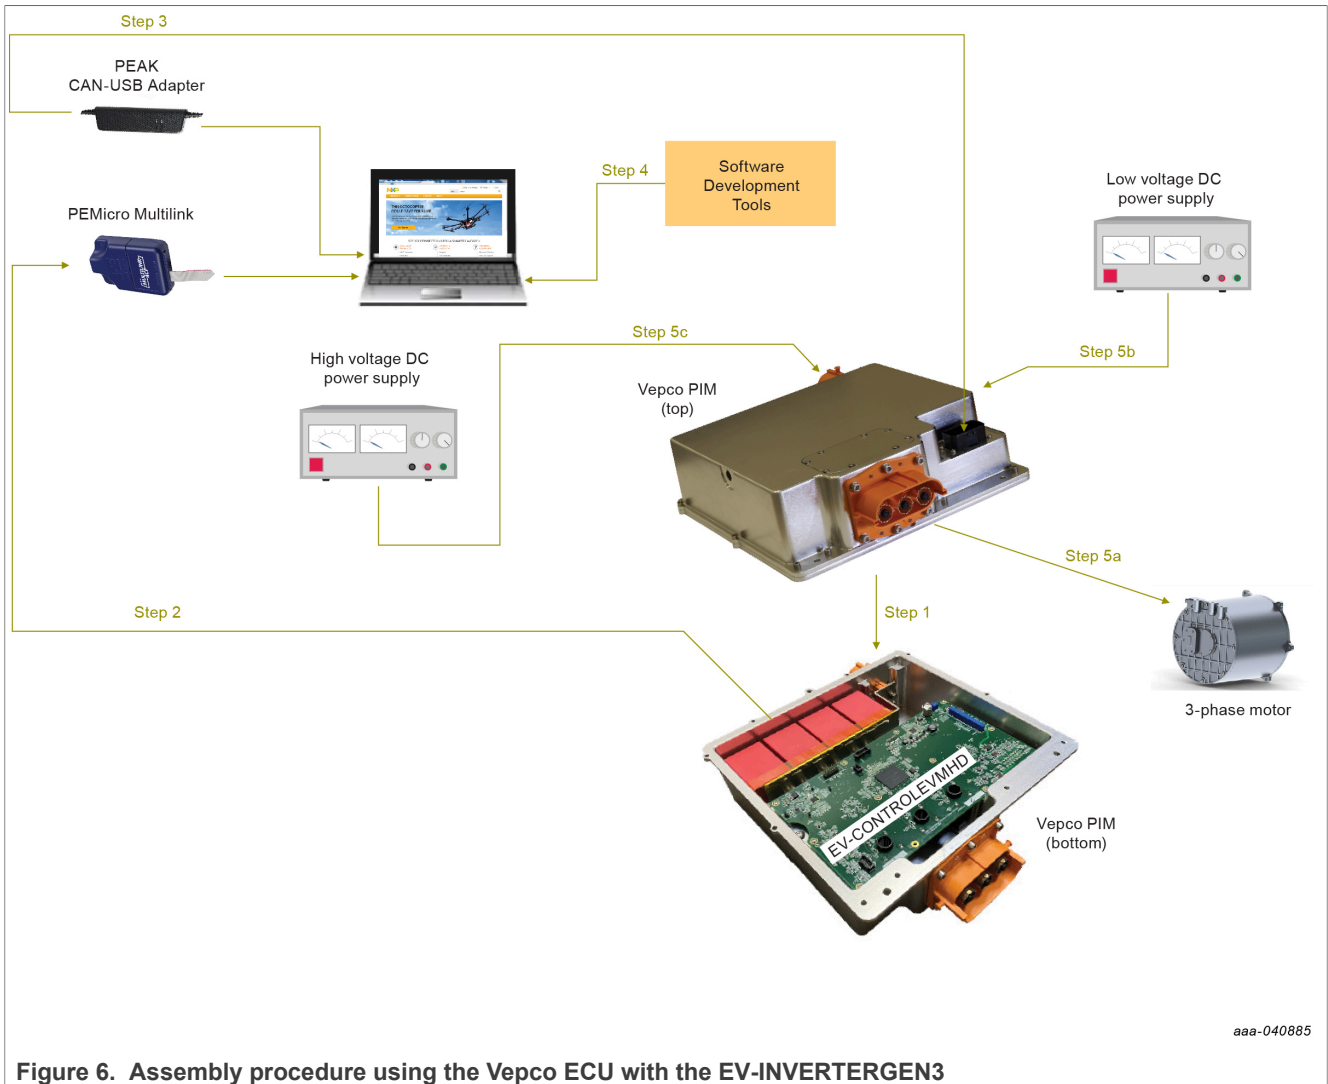

Figure 6. Assembly procedure using the Vepco ECU with the EV-INVERTERGEN3
5. Follow the instructions in the Vepco ECU documentation to make the following connections, see Figure 6: